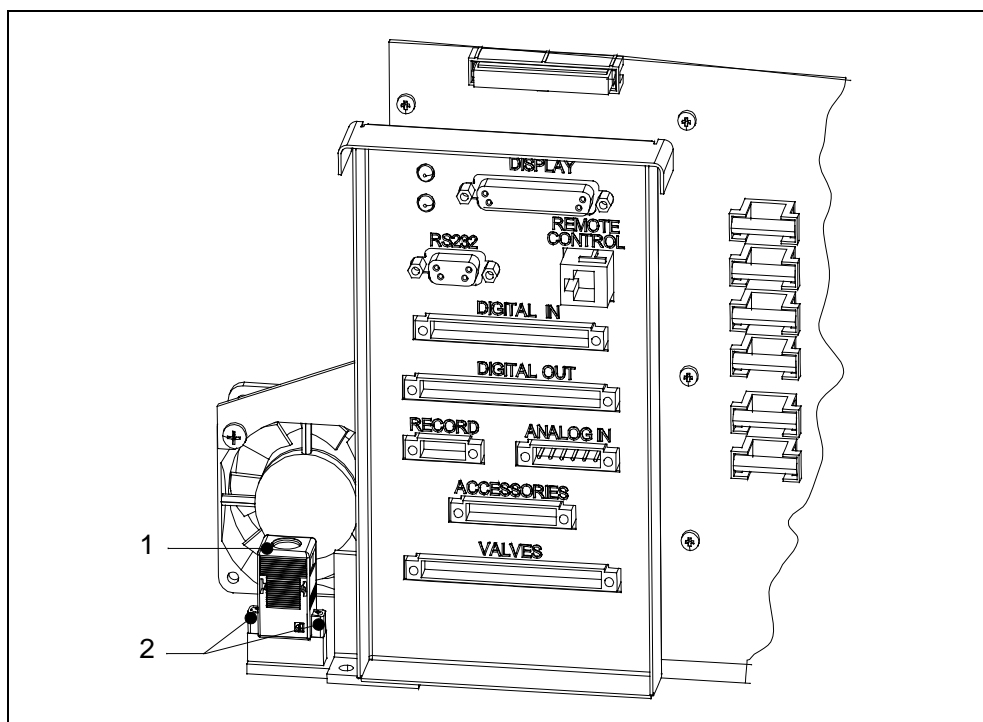

Fig. 7-7 I•STICK replacement
- To replace the I•STICK, release the two screws with which the I•STICK is screwed on the connector. See the Fig. 7-7 below.